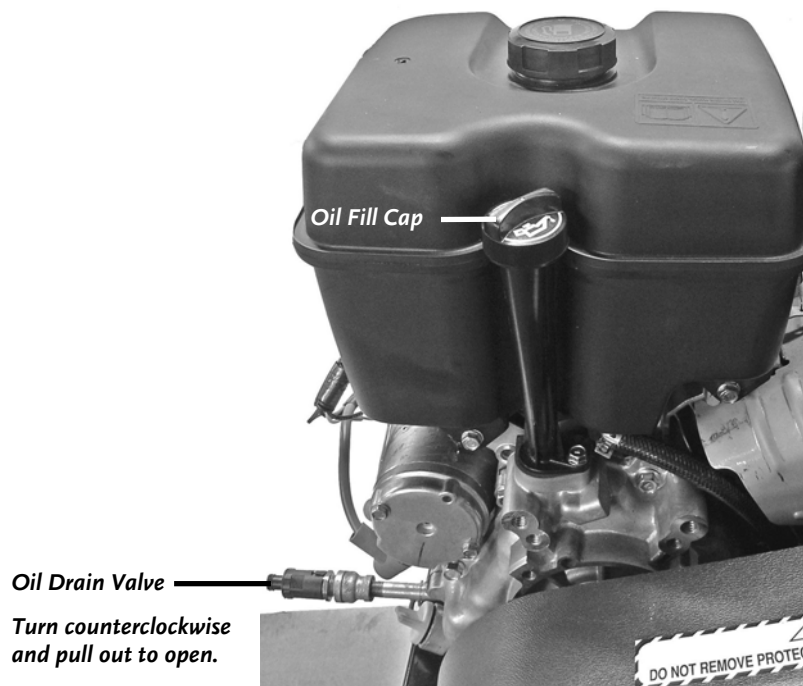

Figure 9
NOTE 1: The engine is equipped with a Drain Valve for ease in changing the oil (**Figure 9**).
1. Position a suitable oil receptacle under the engine oil Drain Valve (located on the tow bar side of the engine) and remove the engine Oil Fill Cap (**Figure 9**).
2. Open the engine oil Drain Valve by twisting the valve end counterclockwise and then pull out (**Figure 9**). Allow the used oil to drain completely, and then close the Drain Valve (push in and turn clockwise).